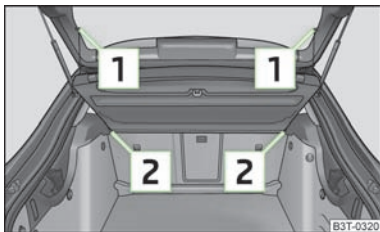

Fig. 69
- Unhook the support straps **1** » Fig. 69.